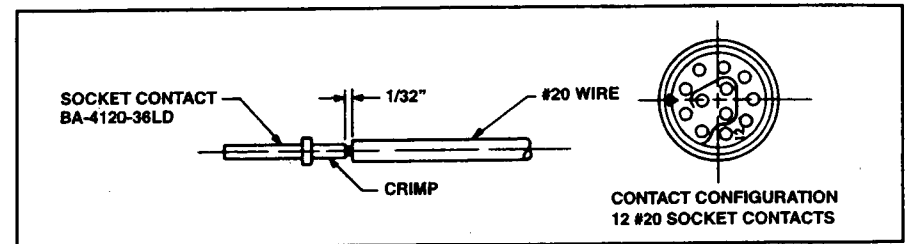

FIGURE 2
3. Dress the wires and crimp the socket contacts, leaving no more than 1/32" gap between the socket contact and the conductor. See Figure 2.